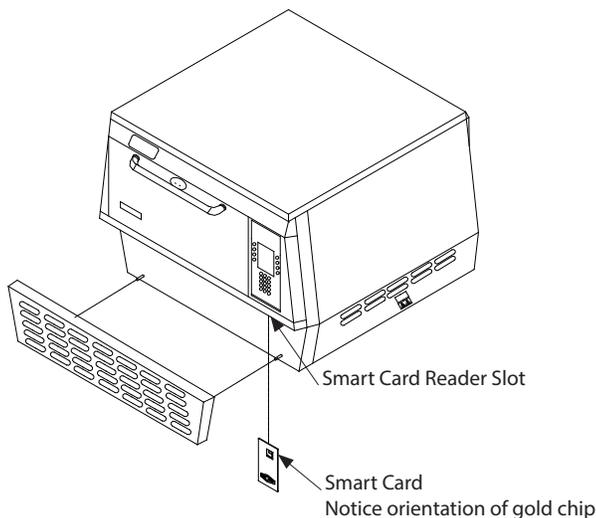

Figure 9: Inserting Smart Card - C3
1. Insert the gray smart card (Figure 9).